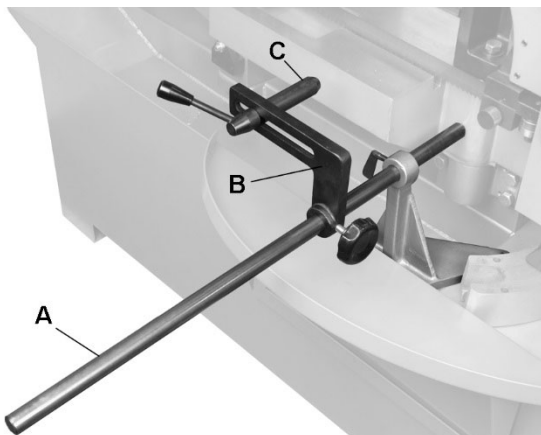

Figure 8-10: work stop
The work stop assembly (Figure 8-10) is used when multiple pieces will be cut to identical length. Simply adjust rod (A), L-bracket (B), and stop (C) to desired positions, and tighten all handles/levers.